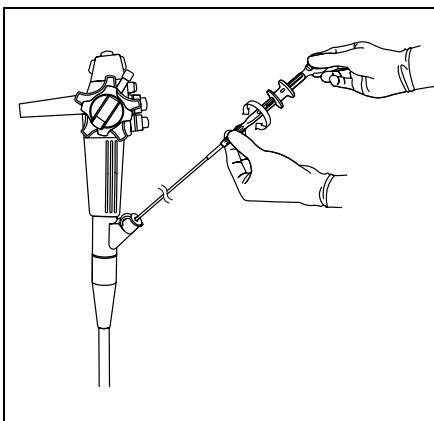

Figure 3.12
- If the clip will not rotate smoothly, straighten out the part of the insertion tube extending from the forceps port as straight as possible and rotate the rotation grip (see Figure 3.12).